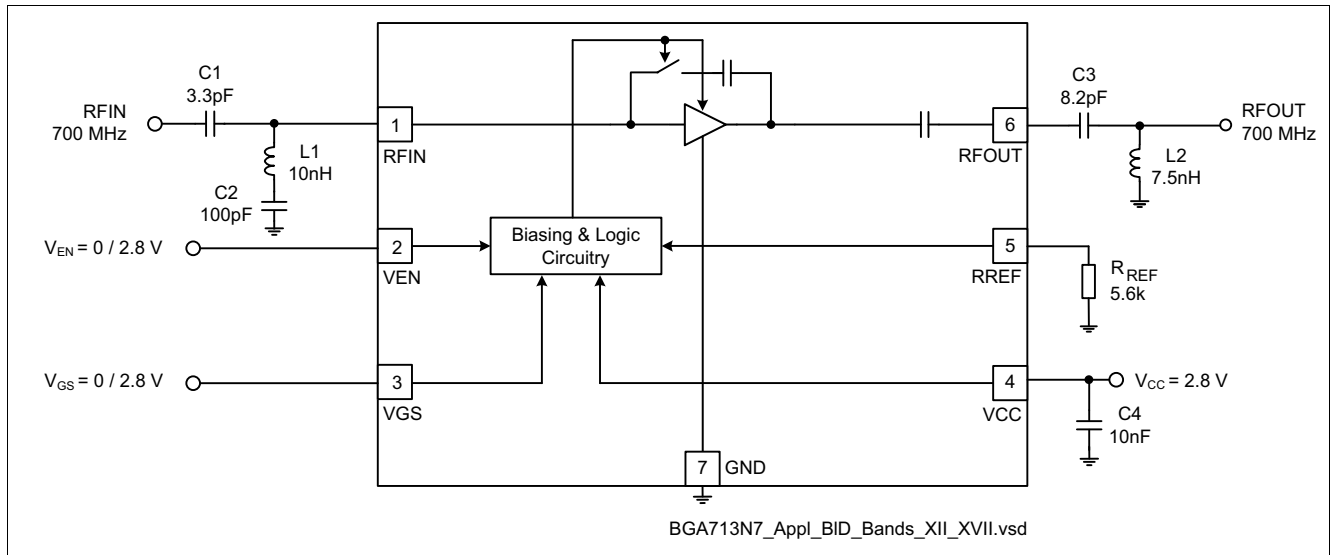

Figure 2 Application Circuit with Chip Outline (top view)
1) Performance based on application circuit in Figure 2 on Page 19